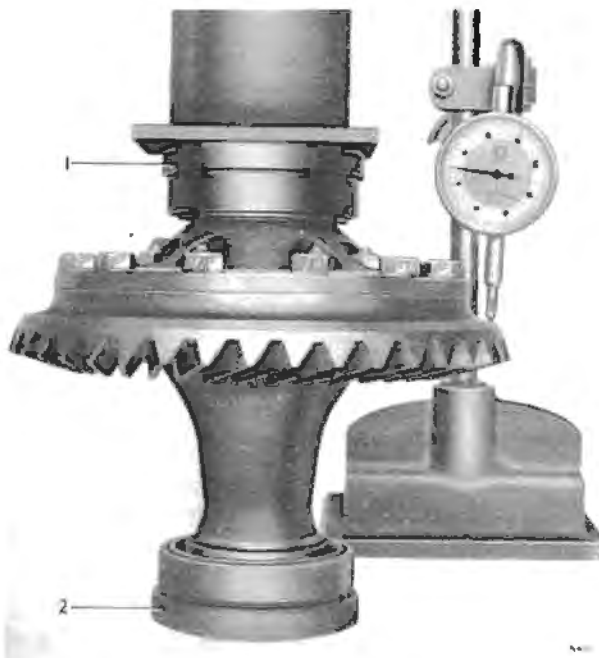

Fig. J22 Checking the crown wheel for truth
2. Place the crown wheel complete with roller bearings and outer races under a press with the distance pieces at '1' and '2' as shown in Figure J22.